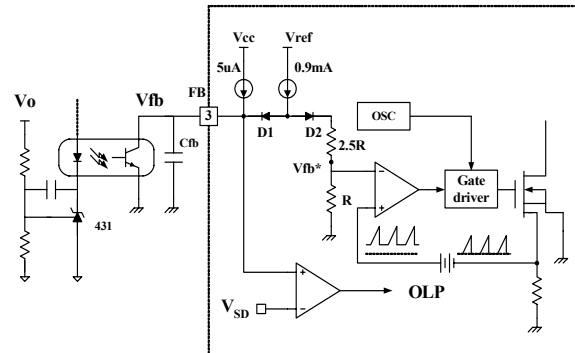

Figure 5. Pulse width modulation (PWM) circuit
**2. Feedback Control :** The FSDx0365RN employs current mode control, shown in figure 5. An opto-coupler (such as the H11A817A) and shunt regulator (such as the KA431) are typically used to implement the feedback network. Comparing the feedback voltage with the voltage across the  $R_{sense}$  resistor plus an offset voltage makes it possible to control the switching duty cycle. When the reference pin voltage of the KA431 exceeds the internal reference voltage of 2.5V, the H11A817A LED current increases, thus pulling down the feedback voltage and reducing the duty cycle. This event typically happens when the input voltage is increased or the output load is decreased.